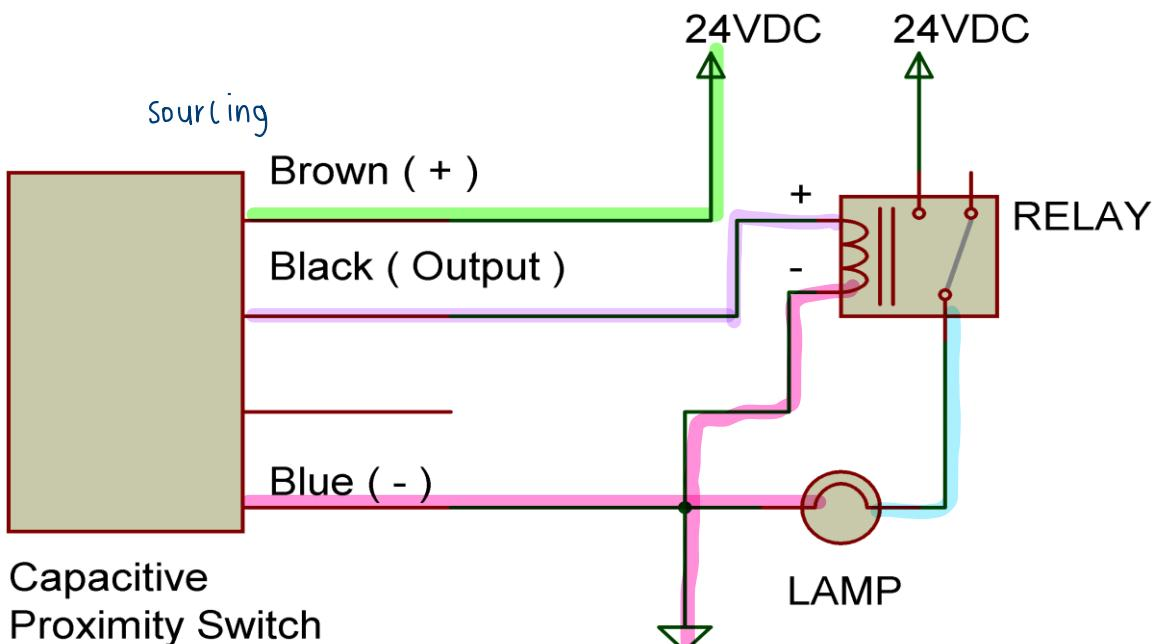

Figure 9: Circuit diagram of capacitive proximity switch circuit
1. Make a capacitive proximity circuit according to the circuit diagram shown in Figure 9.